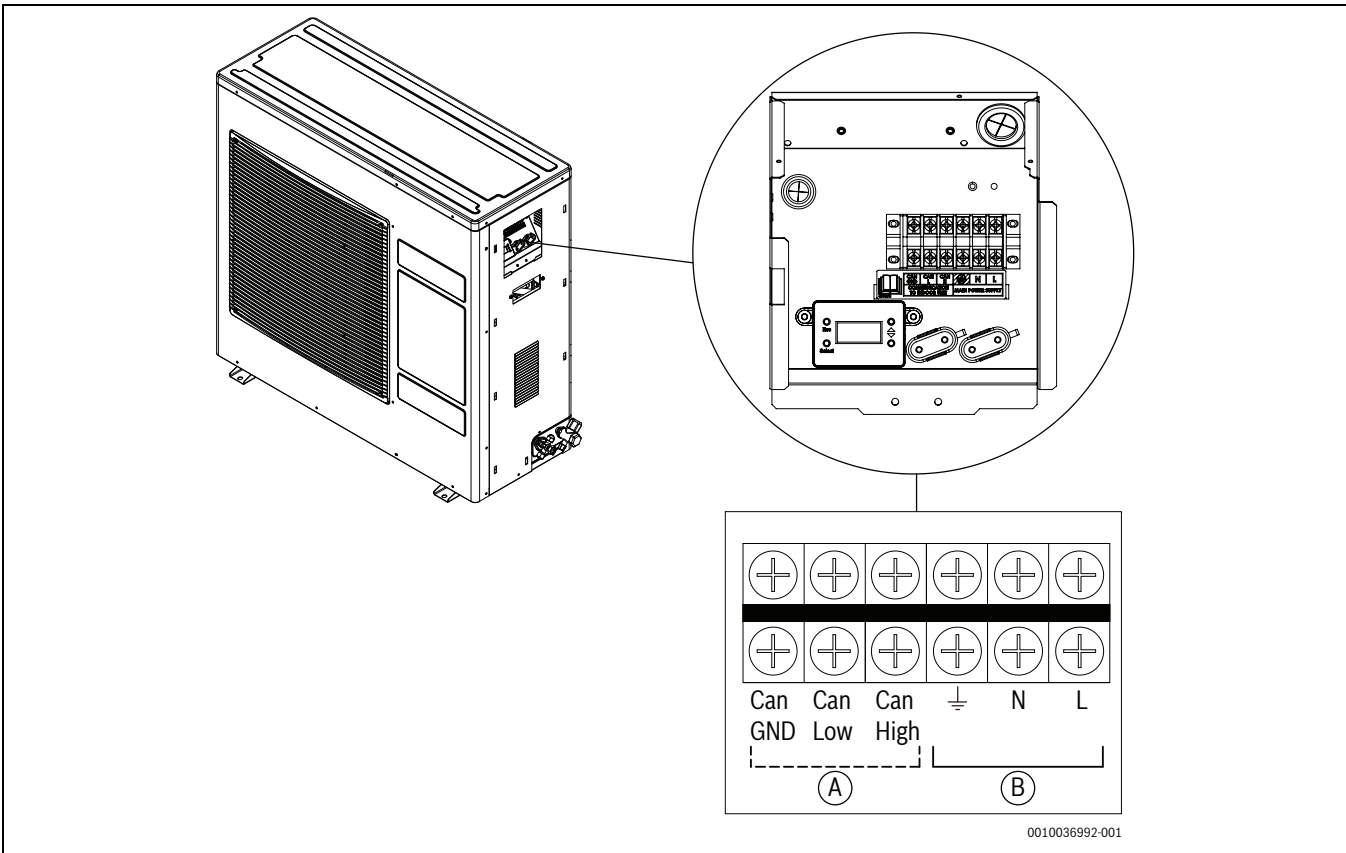

Fig. 20 Cable connections
4. Connect the communication cable between outdoor and indoor units (fig 20 [A]). The end of the communication cable that connects to the indoor unit must be shielded.
5. Connect one end of the power supply to the outdoor unit (fig. 20 [B]) and the other end to the mains distribution board.